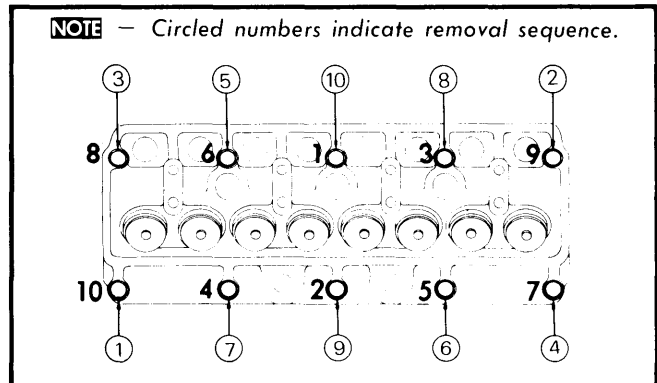

Fig. 1 Tighten Cylinder Head in Sequence Shown (Remove in Reverse Order ⑩ Through ①)
2) Remove rocker shaft assembly. Remove push rods and keep them in order for reassembly in original positions. Disconnect spark plug wires. Remove head bolts beginning with ends. See Fig. 1 Lift head from engine.
Installation — Ensure that mating surfaces are clean, then install new gasket with "front" side facing up. Continue assembly in reverse order of removal. Tighten head bolts gradually in 2 or 3 steps as shown in Fig. 1. Install push rods and rocker shaft assembly, then adjust valves.